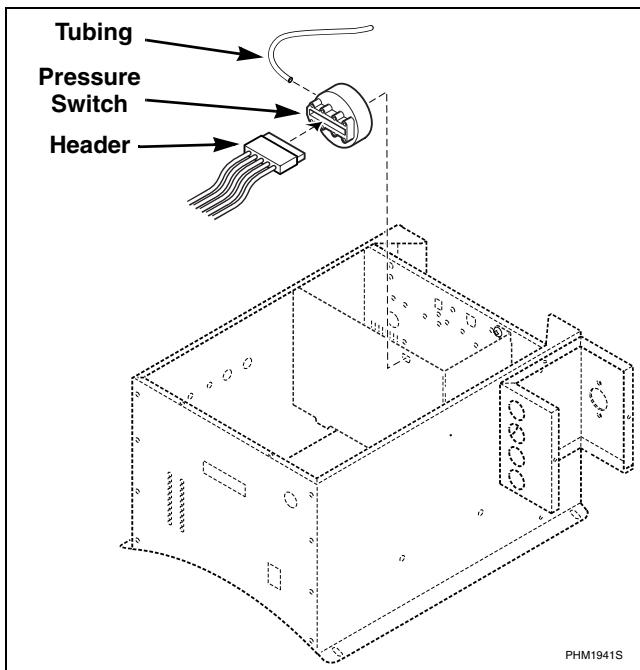

Figure 21
- c. Remove the header. Refer to *Figure 21*.
- d. Depress the retaining clip on the back of the pressure switch. Remove the pressure switch. Refer to *Figure 21*.
- e. Remove the tubing from the pressure switch. Refer to *Figure 21*.